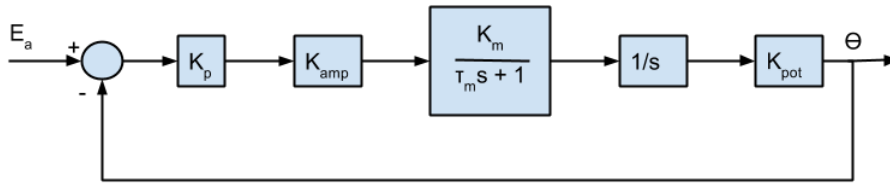

Figure 1: Proportional controller block diagram
2. Place the position transfer function in a unity feedback loop with proportional gain controller. See Figure 1. Calculate the closed loop transfer function of this system. Hint: it should simplify into the form of an ideal second order system.